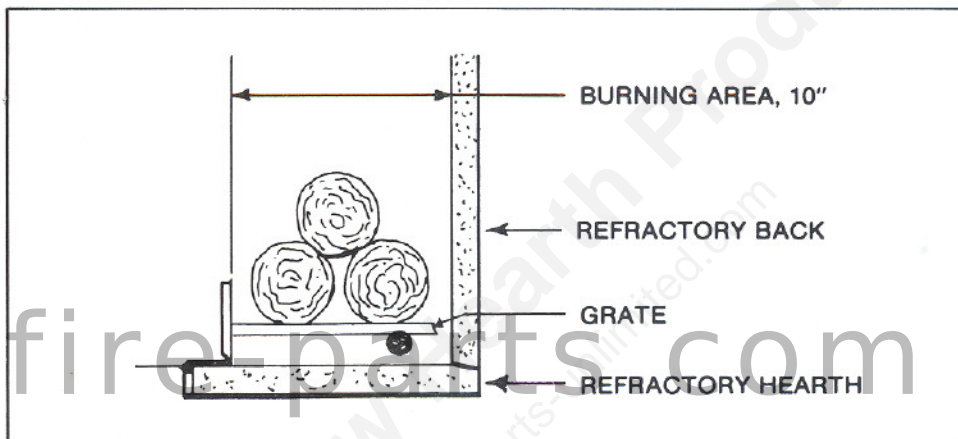

Figure 2
- E. **GRATE.** Grates must be used to help hold logs from falling out of an open fireplace and to allow air to pass between the burning logs. Grate size depends on hearth size and shape. It is important to keep the fire off the hearth and to allow the ashes to collect beneath the fire, thereby forming a layer of additional heat protection. See Figure 2.
- H. **SETTING THE FIRE.** Check the flue damper to be sure it is fully open. Place crumpled or twisted paper under the grate or on the hearth. Loosely arrange kindling or small pieces of wood to form a layer above the paper. Place three logs in a rough pyramid as shown in Figure 2, being sure to allow free air space between the logs. Small sticks of wood may be used to separate the logs. NOTE: When heated the first time, the temperature of the fireplace must be raised gradually, to prevent moisture within the refractory from causing cracks, and to allow the binders in the insulation to dissipate.